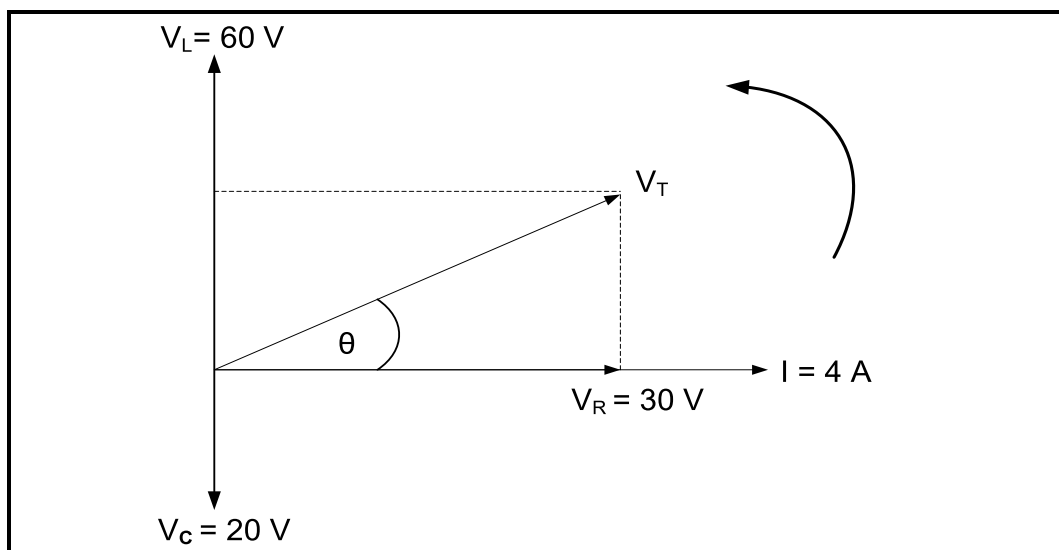

FIGURE 3.5: PHASOR DIAGRAM
3.5 Refer to FIGURE 3.5 below and answer the questions that follow.